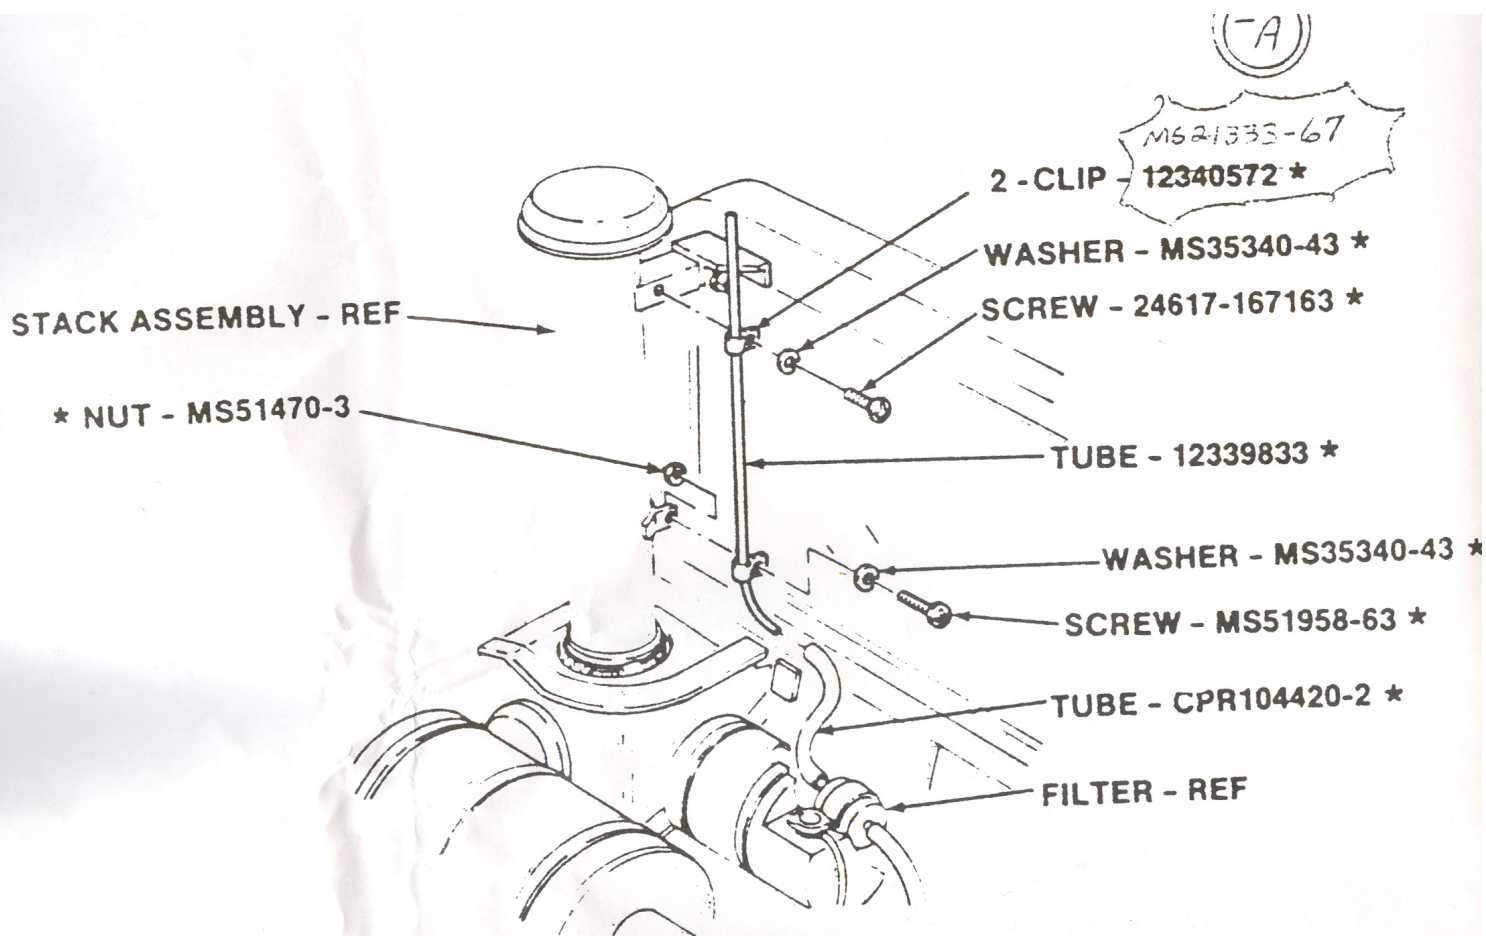

FIGURE 11
- F. INSTALL TWO *MS21333-67 CLIPS ON* 12339833 TUBE. INSTALL TUBE TO STACK ASSEMBLY, AND SECURE WITH MS35340-43 WASHER AND 24617-167163 SCREW AS SHOWN IN FIGURE 11.
- G. SECURE TUBE TO STACK ASSEMBLY WITH *MS35207-263* ~~MS51958-63~~ SCREW, MS35340-43 WASHER, AND MS51470-3 NUT AS SHOWN IN FIGURE 11.
- H. INSTALL AND CONNECT CPR104420-2 FUEL TANK VENT TUBE TO FILTER AND TUBE AS SHOWN IN FIGURE 11.